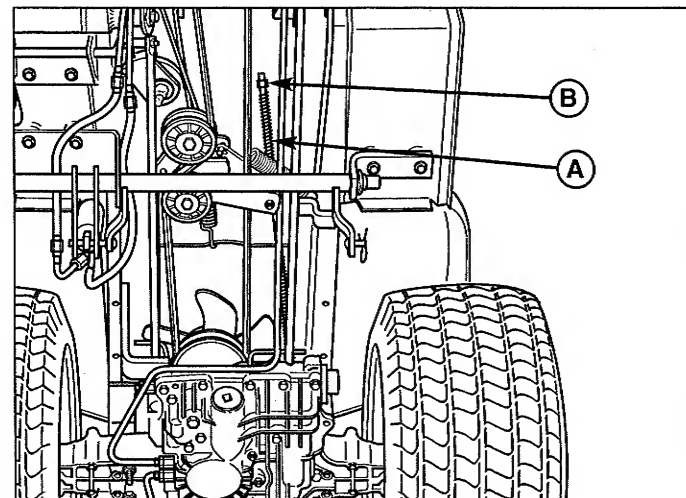

Figure 46. Brake Spring Adjustment
3. Locate the brake spring (A, Figure 46) and adjustment nut (B).
If the spring is not within this range, turn the adjustment nut (B, Figure 46) to compress or release the spring.